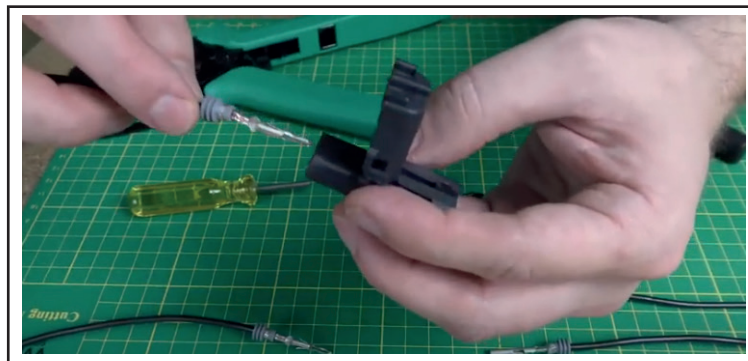

Figure 11 - Insertion of Female Terminal into the Female Housing
- 1.14. Insert the Female Terminal into the Female Housing and snap the retainer shut (see figure 11).